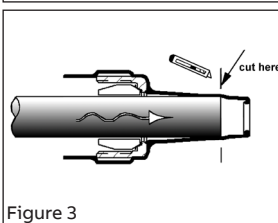

Figure 3
- Method 1: Unscrew gland nut from body. Force square cut cable in boot. Cut boot in front of cable (Figure 3).